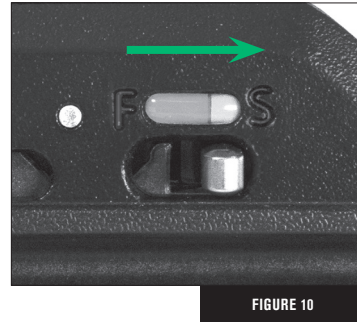

FIGURE 10
- 1b Slide the safety switch from the FIRE position to the ON SAFE position. (Fig. 10)
- 3f Continue drawing until the trigger safety switch moves to the "SAFE" position. (Fig. 10)